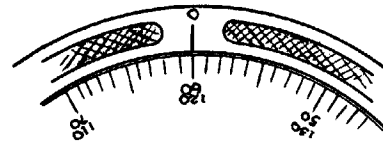

FIG.9 READING PROTRACTOR
3. Loosen the clamping screw on the body of the protractor and swing the revolving turret to the desired angle. This angle is read at the index line on the body and the graduations on the turret. (Fig.9) Tighten the clamping screw.